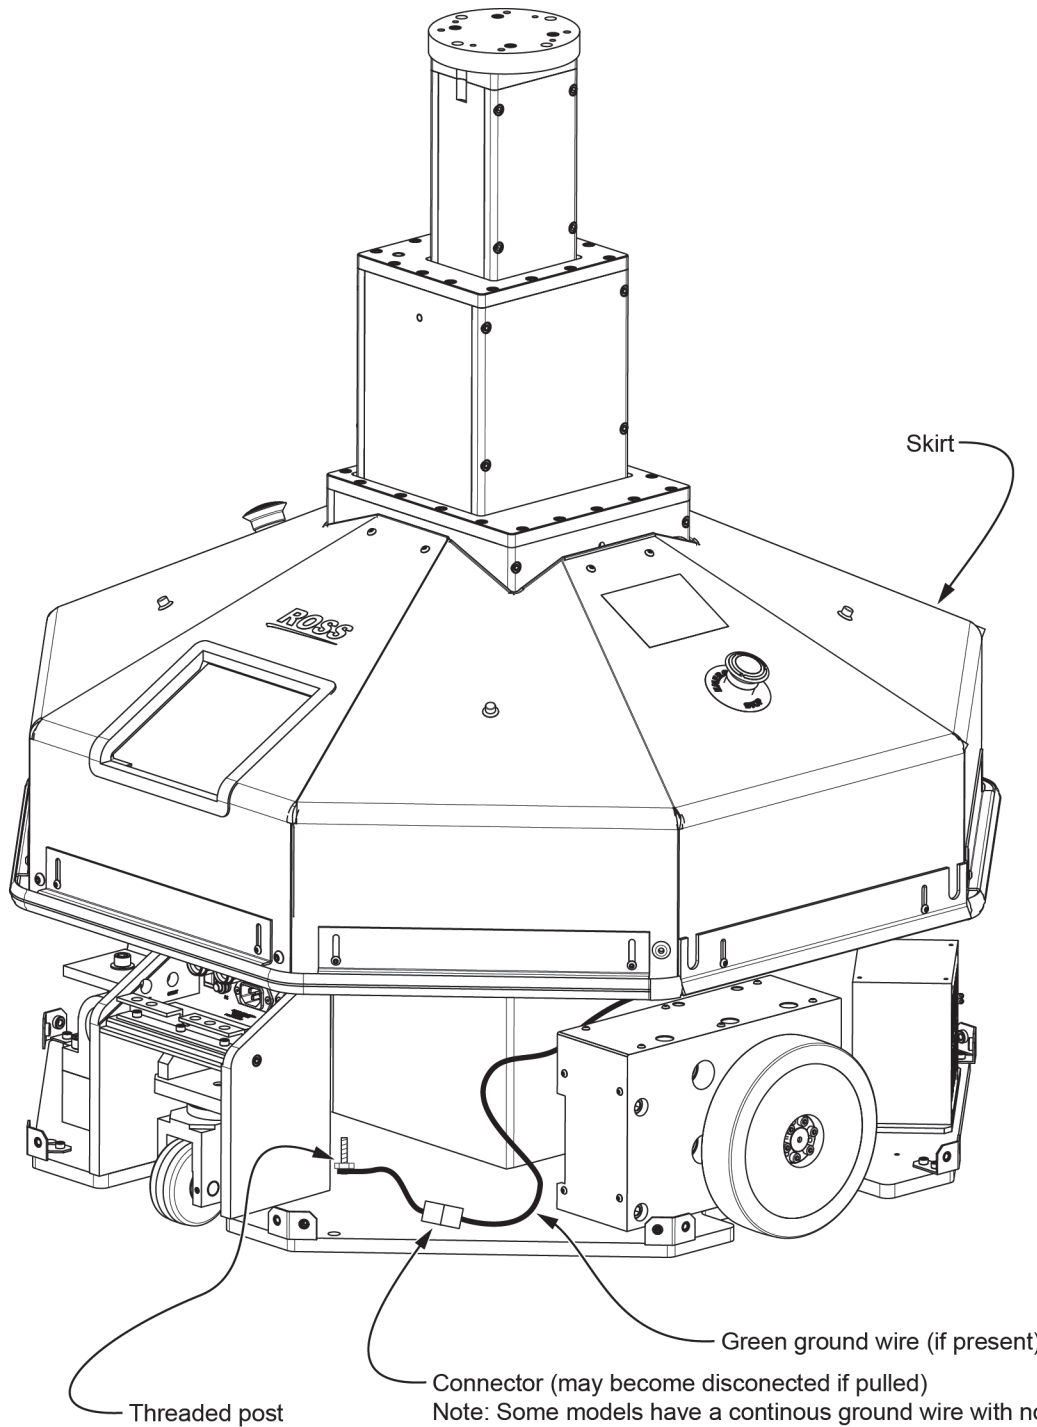

Figure 6 - Reconnecting the Green Ground Wire (if present) - View of the CamBot 700XY Pedestal (some parts omitted for clarity)
5. To the right side of the connection panel, check whether there is a loose green ground wire hanging from the inside edge of the skirt. If such a wire is present, reconnect it. The wire connects to a similar green ground wire attached to a threaded post beside the connection panel. See **Figure 6**.
IMPORTANT: If you lift the skirt too high, the green ground wire (if present) may become disconnected. If this happens, reconnect the wire before lowering the skirt. See **Figure 6**.